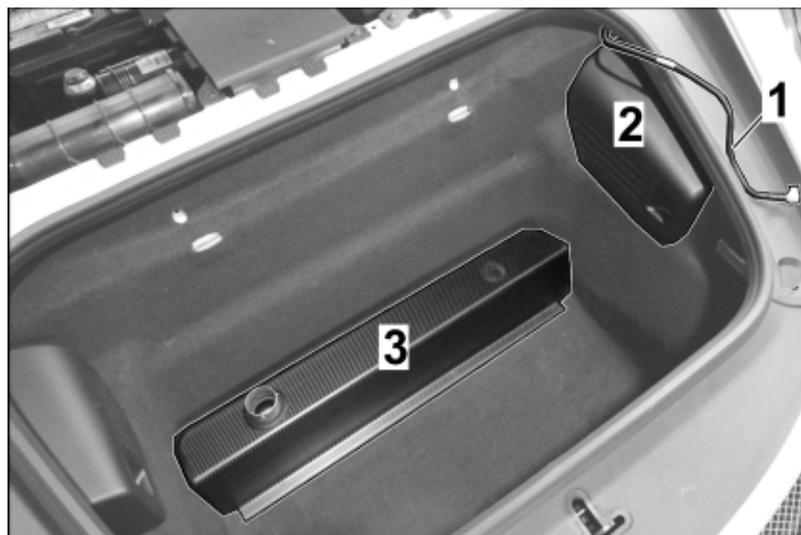

Figure 80
10.3.7 Carefully install tool kit bracket (⇒ Figure 80).